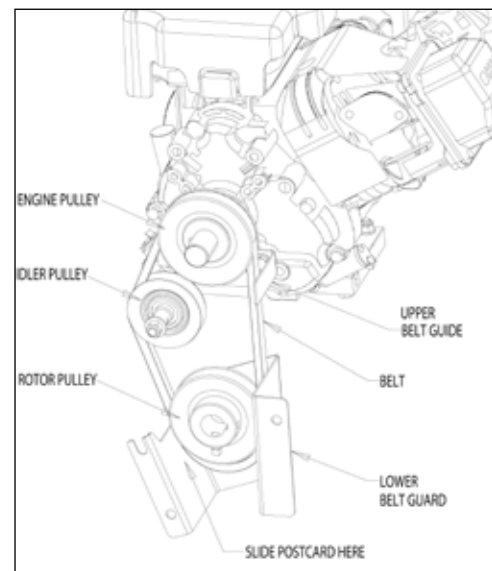

Figure 5.5 - Belt Guide Adjustments
7. From underneath, check the alignment of lower belt guard with a post card (Figure 5.5). With the clutch engaged, there should be enough room between the belt and the side of the guard for the card to slide along the belt. With the clutch disengaged, the card should not be able to slide. Adjust if necessary.